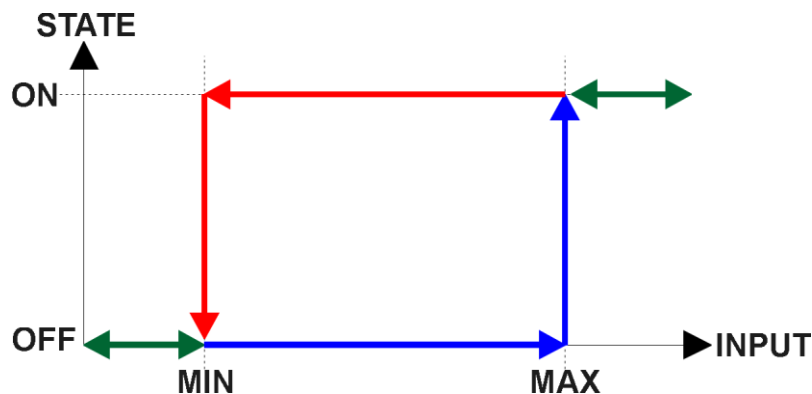

Figure 5 – Analog Input Read as Digital
There is another type of 'digital' input that can be selected when 6112h is set to 20 = Analog On/Off. However, in this case, the input is still configured as an analog input, and therefore the objects from the Analog Input (AI) block are applied instead of those discussed above. Here, objects 2020h, and 2030h are ignored, and 6000h is written as per the logic shown in Figure 5. In this case, the MIN parameter is set by object 7120h **AI Scaling 1 FV**, and the MAX is set by 7122h **AI Scaling 2 FV**.